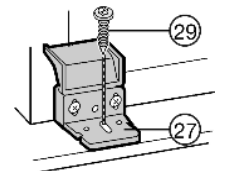

Fig. 24
- ▶ Preassemble by passing a long screw Fig. 24 (29) through the oblong hole in the plastic bracket Fig. 24 (27).
- ▶ Fold down the cover of the plastic bracket Fig. 24 (27).